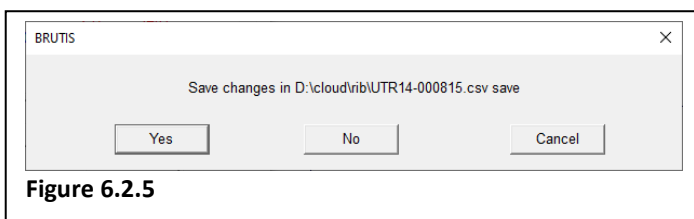

Figure 6.2.5
14. If definitive measures have been taken, the message, in figure 6.2.5. will be displayed. Press [Yes] If you want to save the data with the original inspection file.